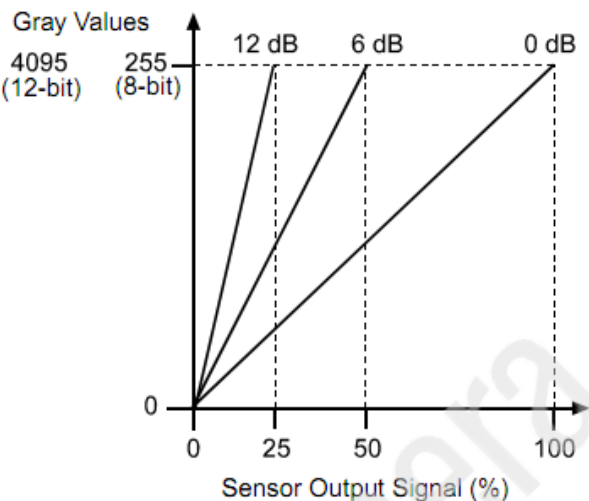

Figure 8-36 The camera's response curve
- When the analog gain changes, the response curve of the camera changes, as shown in Figure 8-36. The horizontal axis represents the output signal of the sensor in the camera, and the vertical axis represents the gray value of the output image.